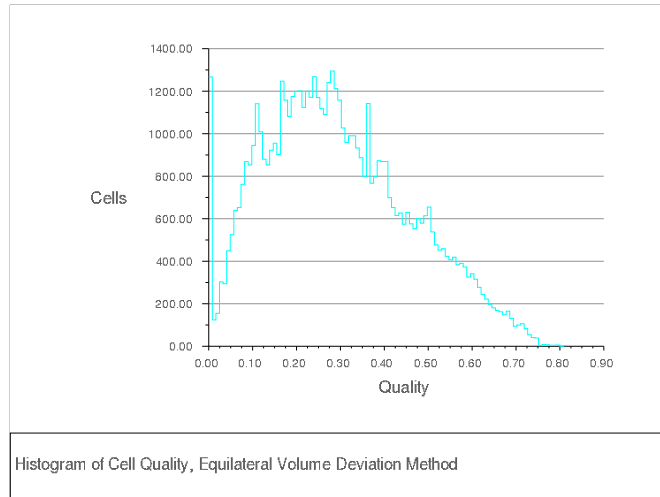

Figure 3.12: Cell Skewness Distribution
- (a) Plot the cell skewness distribution (Figure 3.12).